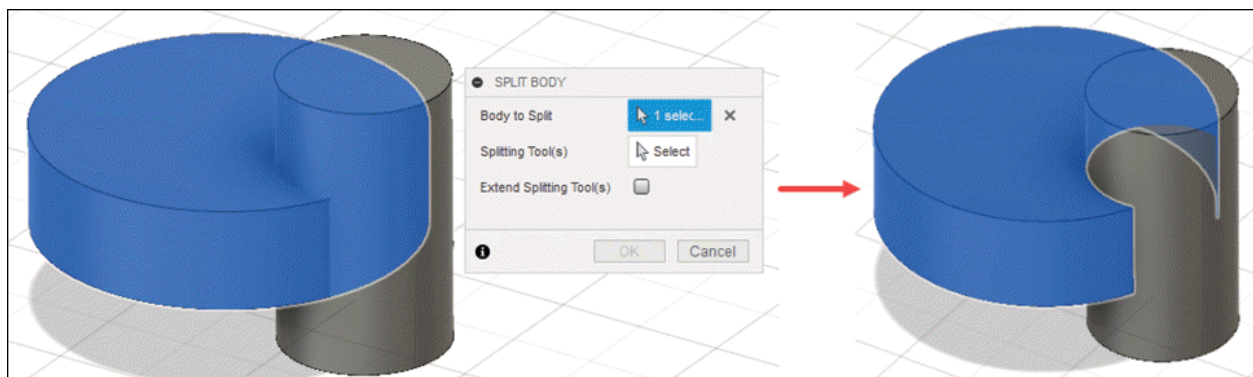

Figure-47. Preview of split body
- After specifying various parameters, click **OK** button of **SPLIT BODY** dialog box to complete the process; refer to Figure-47.